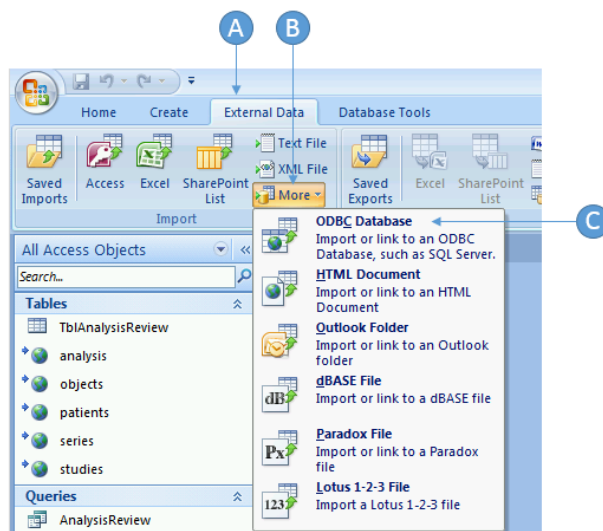

Figure 8-9 Microsoft Access External Data Import Menu
Once you have open the Report tool, you will select the **External Data** main menu item (Figure 8-9) (A). From that item, in the **Import** section, you will find a drop-down button named **More** (B). Select this button and select **ODBC Database** from its options (C).